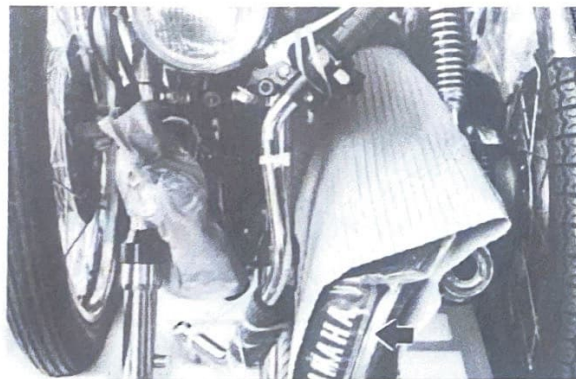

Fig. 9
2. Remove the seats. (Fig. 9)
2. Retirer la selle. (Fig. 9)